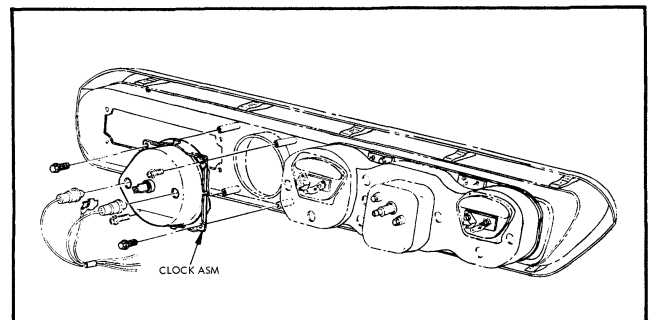

Fig. 12-12 Reference Illustration - Tempest Clock
2. Remove four retaining screws (Fig. 12-12).